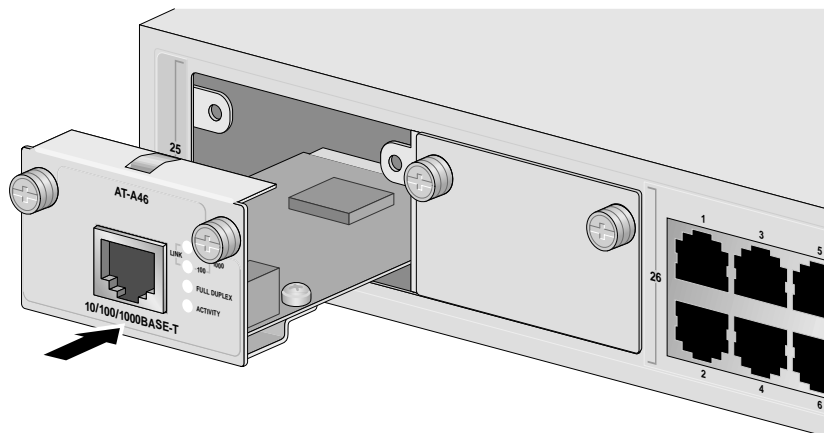

Figure 28 Installing a Module
6. Carefully slide the module into the slot until the module faceplate makes contact with the switch, as displayed in Figure 28. Avoid touching the module components.